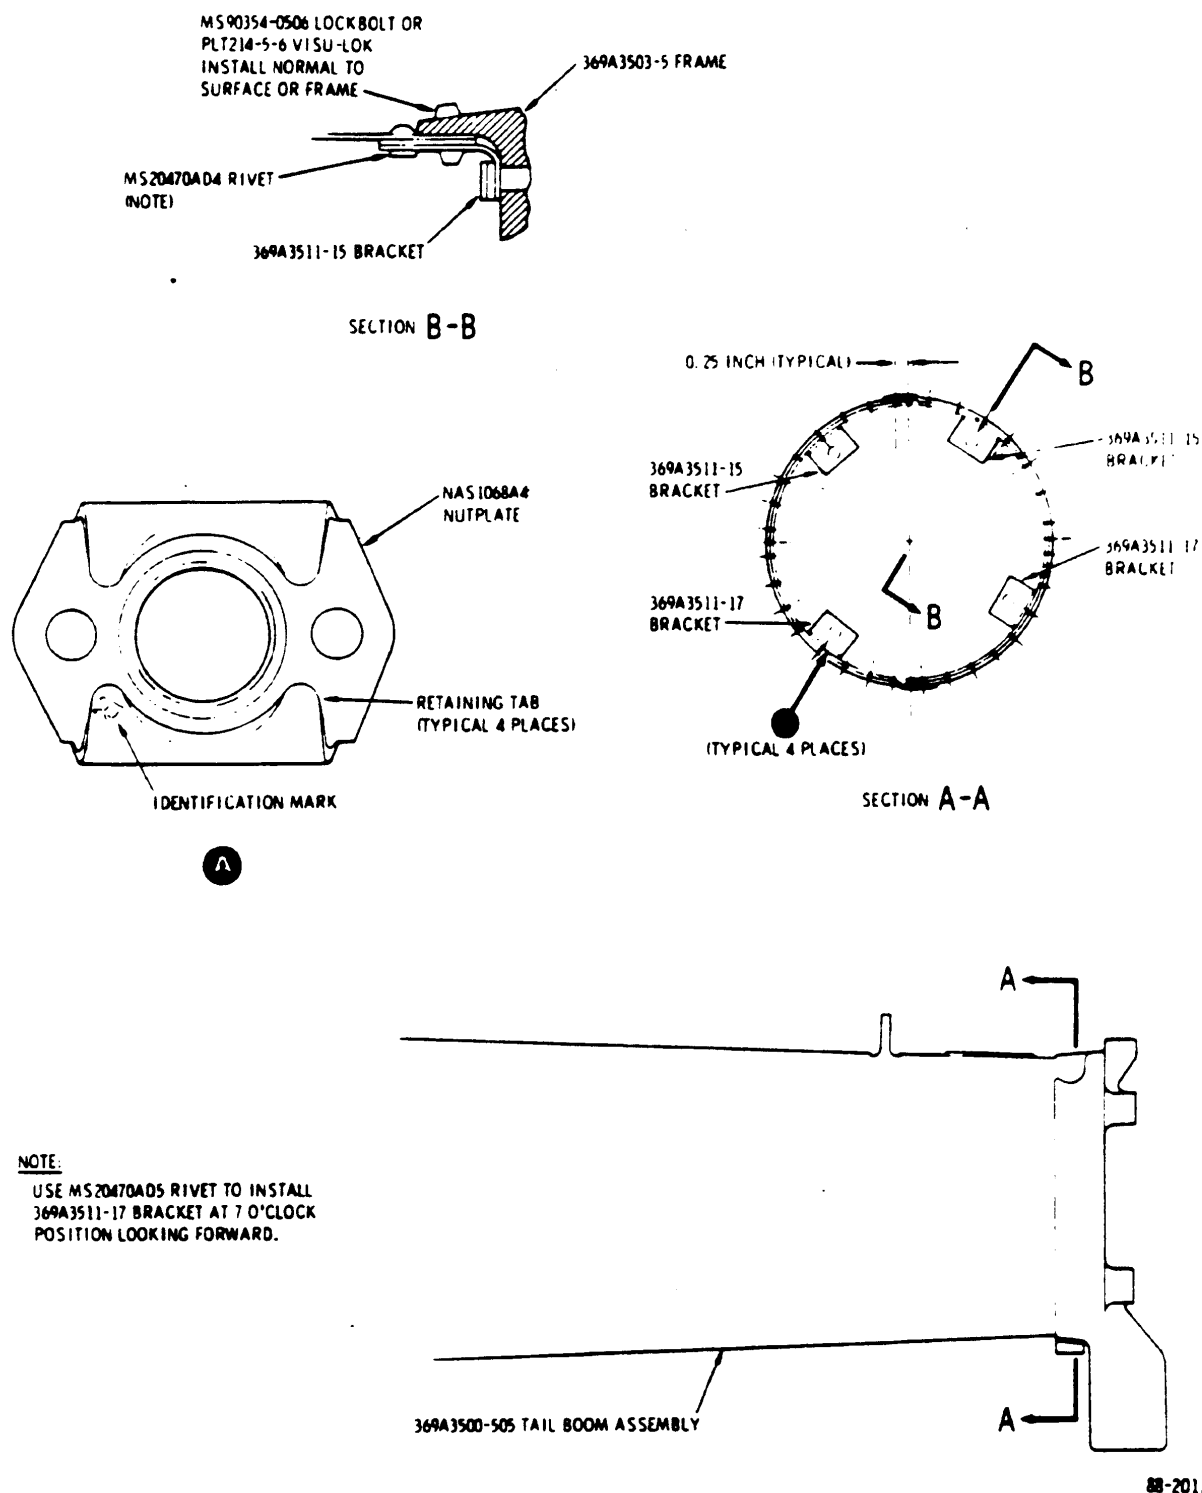

Figure 1. Rework of Tailboom - Replacement of 369A3511-15 and 369A3511-17 Brackets.
- (2). Using dental mirror and high intensity light, inspect each of the four tail-boom brackets for an identification mark "R" impression stamped on one of the NAS1068A4 nut plate retaining tabs. Check all tabs on each nut plate. (See Figure 1.)
- (a) Locate and identify existing lockbolt and rivet securing B69A3511-15 or 369A3511-17 bracket to tailboom. (See Figure 1.)